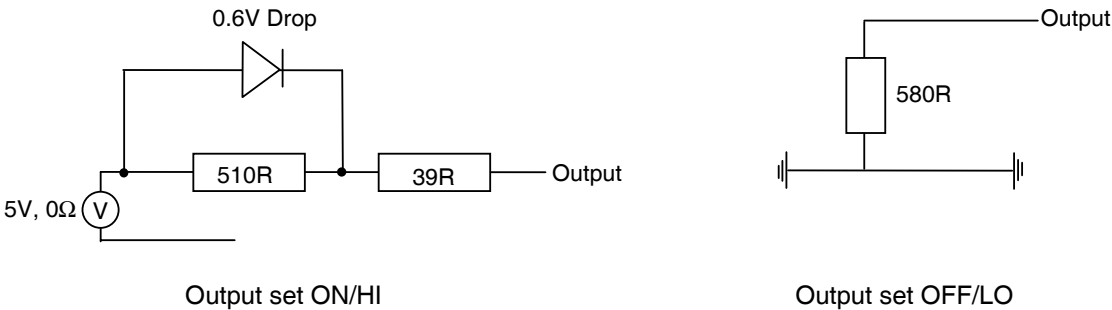

FIGURE 2. Equivalent Output Driver Circuit
* If more detailed output characteristics are required, experienced users should consult the equivalent circuit diagrams shown in Figure 2, below.